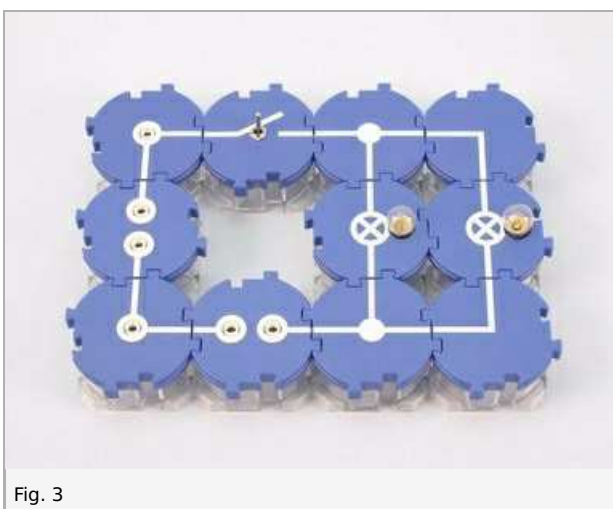

Fig. 3
- Open the circuit and connect in a second filament lamp in parallel (Fig. 3).